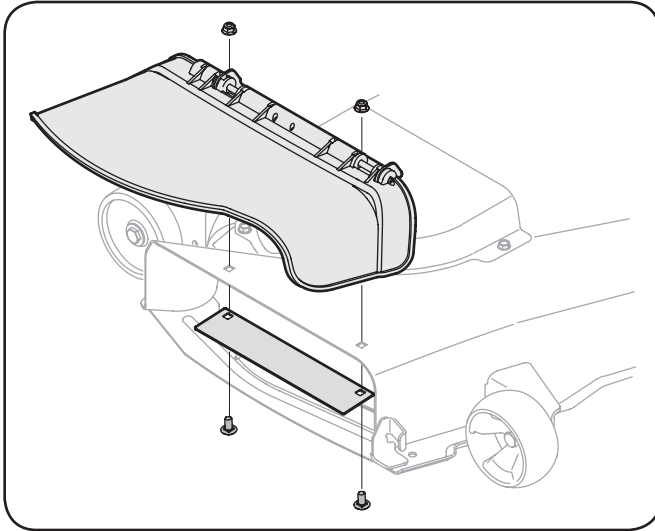

Figure 4-18
3. Install the chute discharge plate to the bottom side of the deck opening, as seen in Fig. 4-18, using two carriage bolts supplied in hardware pack 689-00090.